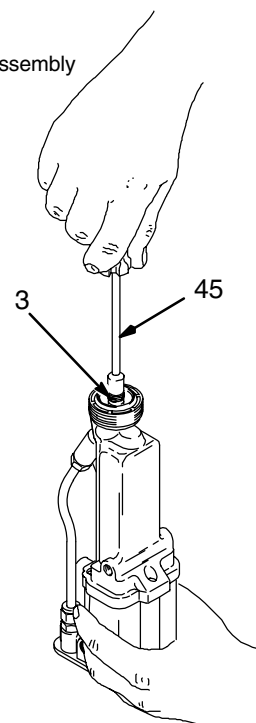

Fig 21
3. Remove the fluid packing rod assembly (3), using the 9 mm hex nut driver (45). See Fig 21 .